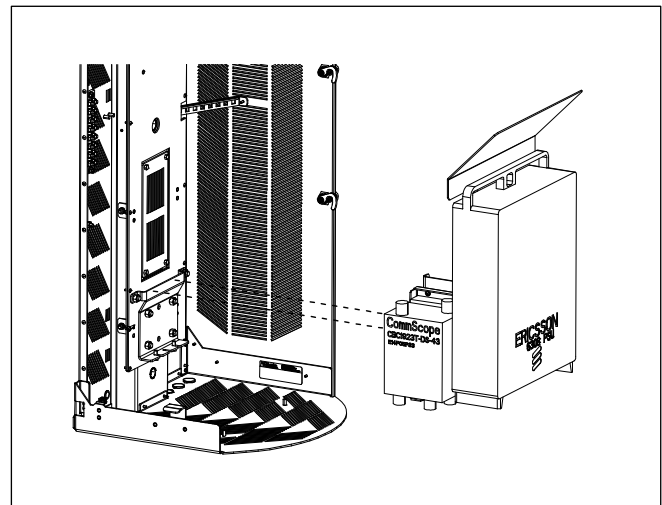

Figure 10 **Mount Lower Assembly**
3. Hang the power supply/diplexer assembly onto the lower hanging bracket base plate (Figure 10). Secure the hanging brackets using the 1/4-20 securing screws underneath.